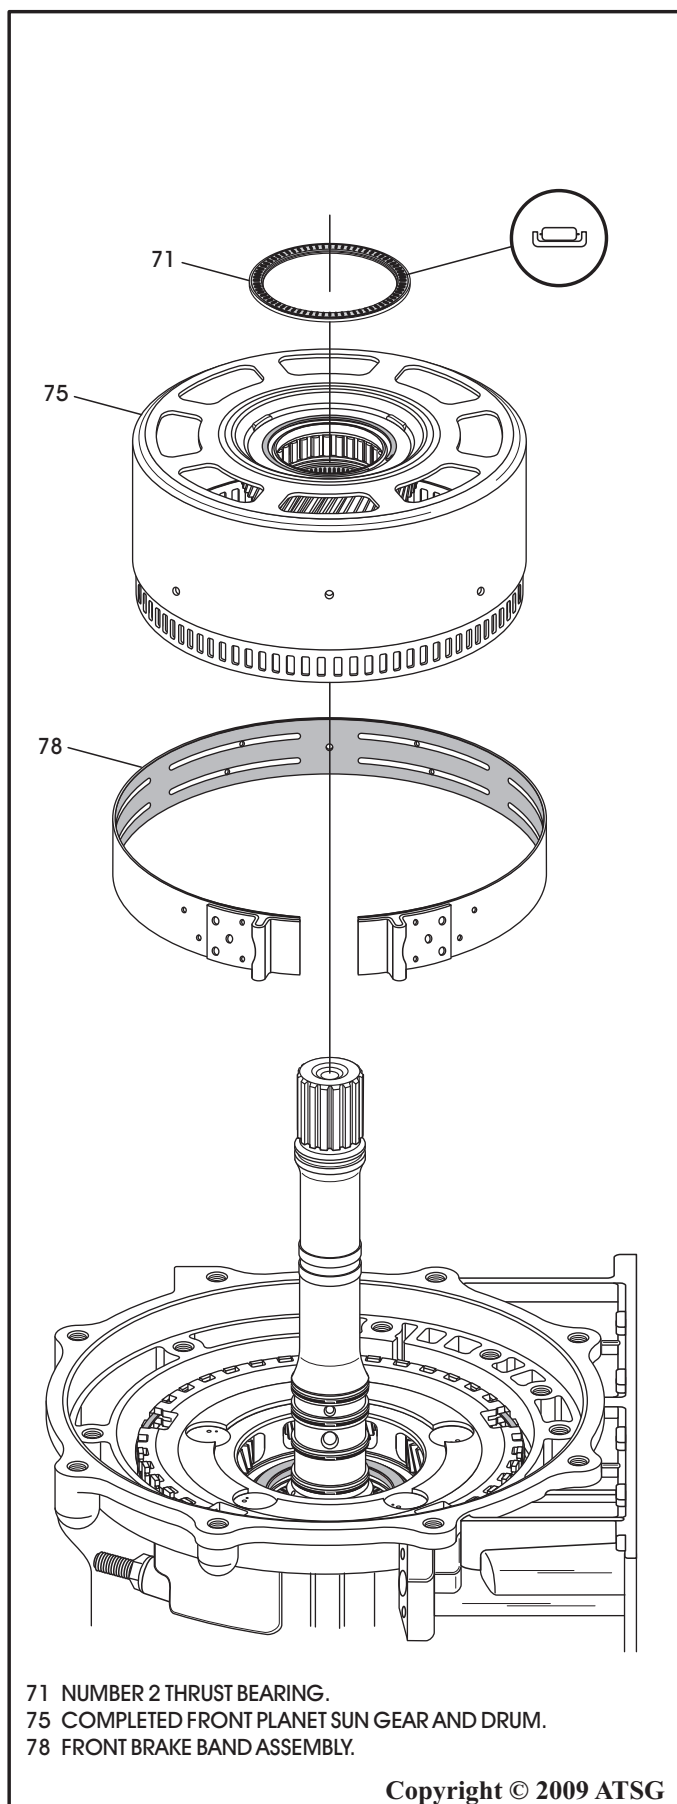

Figure 224
66. Install the front brake band into transmission case, as shown in Figure 224, engaging one end on the servo apply pin and the other end on the adjustable anchor pin.
67. Install pre-assembled front sun gear and drum assembly, as shown in Figure 224, by rotating back and forth until fully seated.
72. Install the number 2 thrust bearing into the sun gear drum with the needles facing up, as shown in Figure 224, and retain with Trans-Jel®.